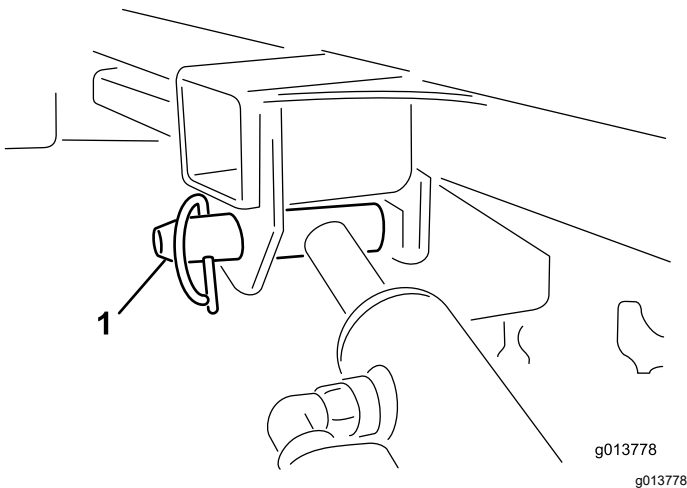

Figure 53
11. With 1 hand, hold the lift cylinder. With the other hand, remove the lift cylinder's locking pin (Figure 53).